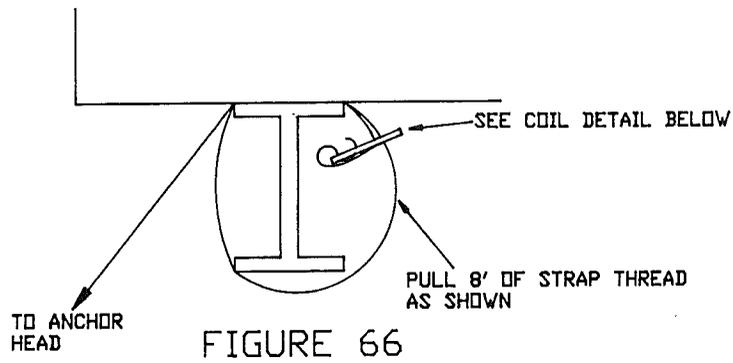

FIGURE 66
6. Connect the diagonal ties to the frame (I-beam) and the ground anchors. See Figures 66, 67, and 68.
Units being placed in Wind Zone II will require additional diagonal frame ties at each end of each longitudinal I-beam of each floor section. The ties will be located at the first interior crossmember/outrigger location on the frame. The strap will loop the I-beam, as shown in Figure 66, on the side of the crossmember/outrigger away from the end of the I-beam and connect to a ground anchor. See Figure 83. Please note that the ground anchor is located under the I-beam being anchored.